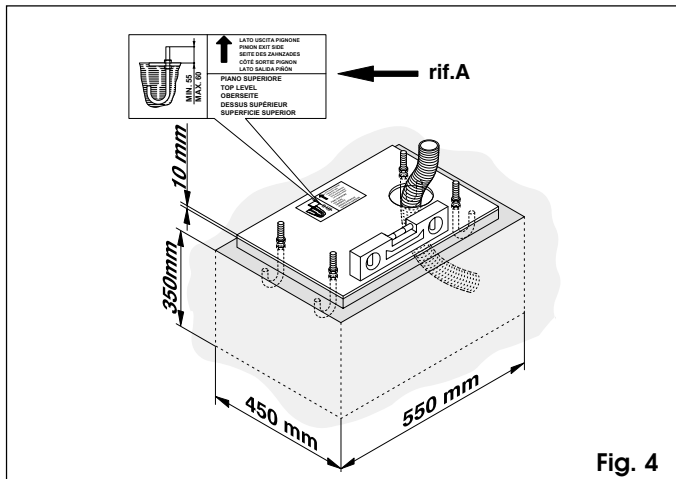
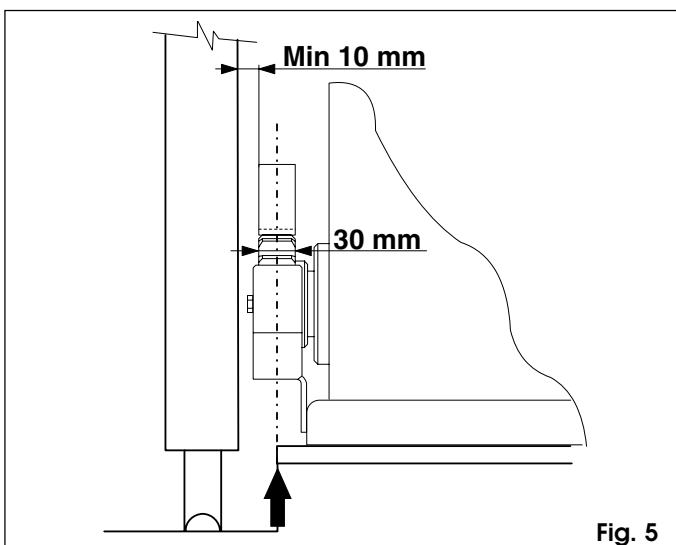
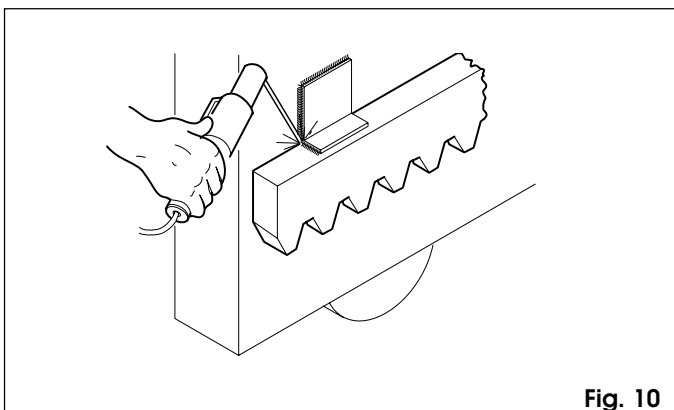

Fig. 4
Fig. 5
Fig. 10
- 1) The base plate must be positioned as shown in Fig. 4. For the positioning distances refer to fig. 5.
- 2) Assemble the foundation plate as shown in A, Fig. 4.
- 3) Prepare a foundation plinth as shown in Fig. 4 and install the base plate providing one or more conduits for electrical cables. Use a level to check that the plate is perfectly horizontal and wait for the cement to set.
- 3) Adjust the height of the feet while keeping the gear motor raised from the plate by 1 cm and maintaining the distance from the gate shown in figs. 5 and 9.
Important: To mount the rack on the leaf it is necessary to construct special supports specifically for the type of gate. Fig. 10 shows an example of "L" support. For positioning the supports refer to figs. 5 and 9.